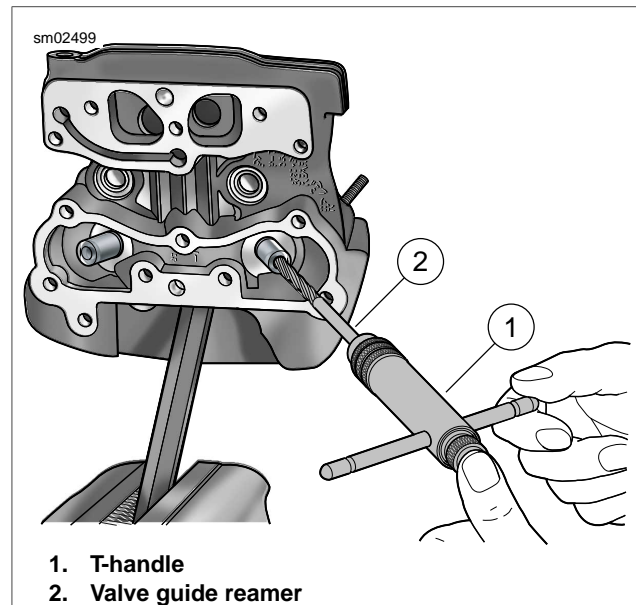

Figure 3-91. Reaming Valve Guide Bore
5. See Figure 3-91. Obtain the VALVE GUIDE REAMER (Part No. B-45523), REAMER T-HANDLE (Part No. HD-39847) and REAMER LUBRICANT (Part No. HD-39964).
- a. Install T-handle (1) on reamer (2).